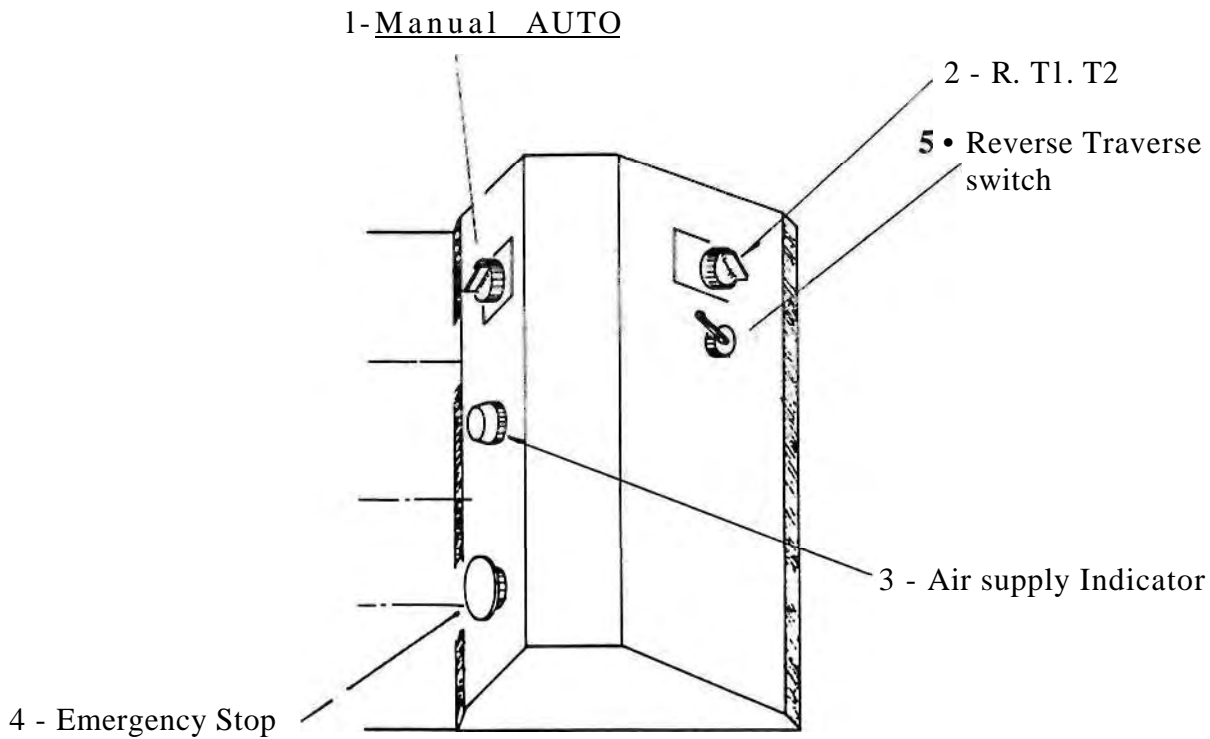

FIGURE 3
- 1 - Lower the lever (J) on the back of the machine in order to advance claws Q and P and position button 2 Fig. 3 on R.